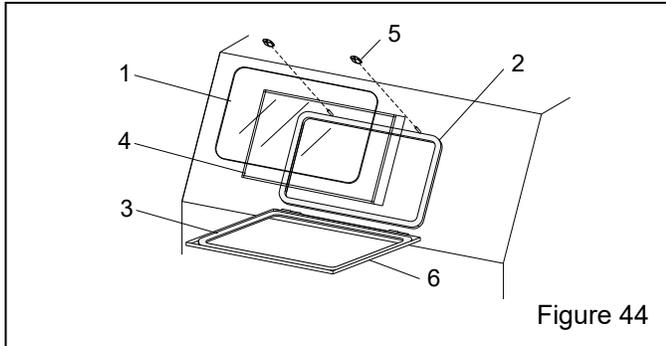

Figure 44
**9.3 View-Window Assembly – Figure 44**